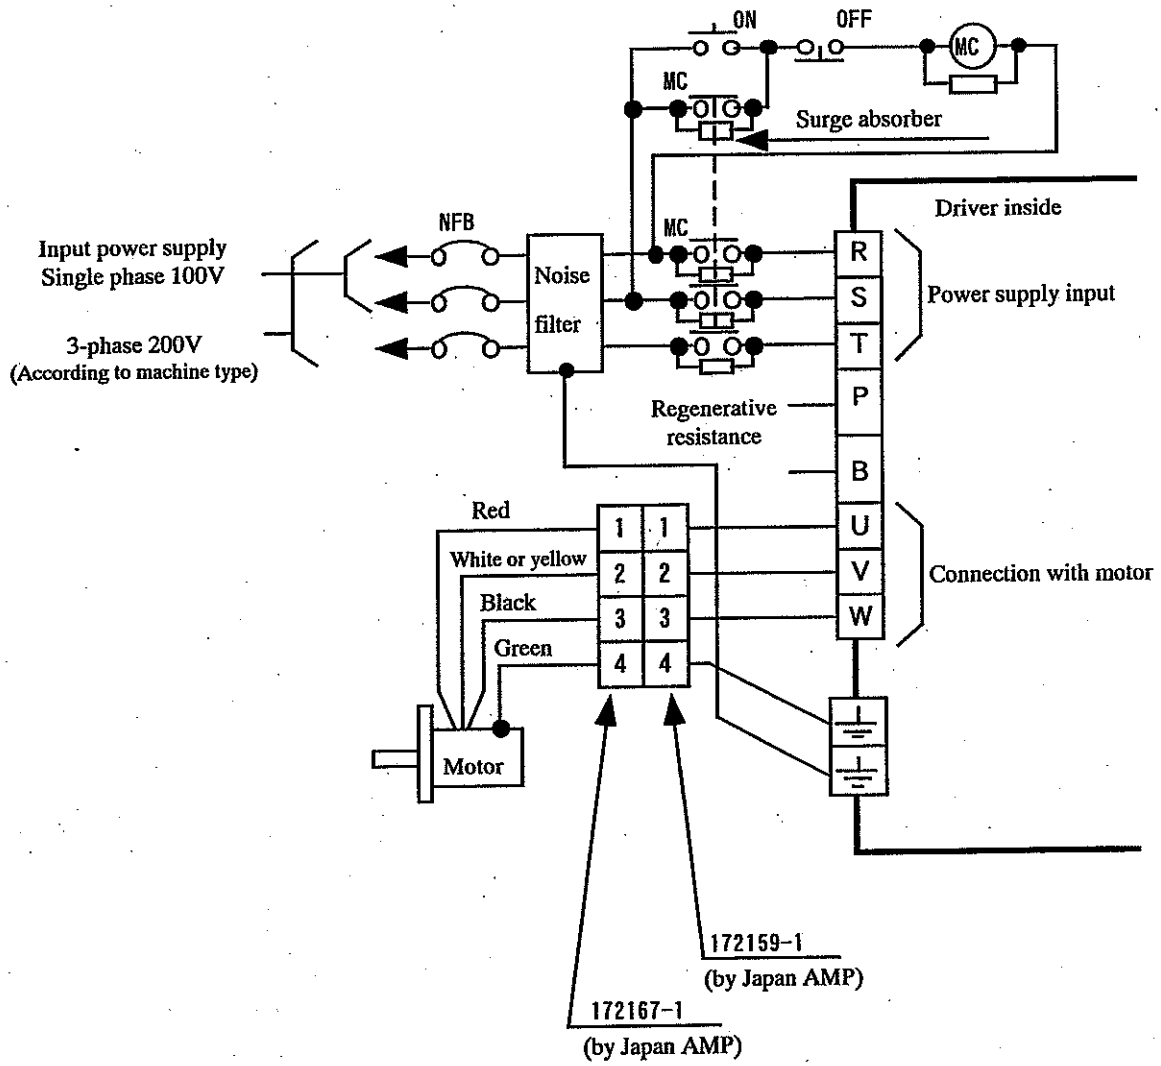

Fig. 6-1 Wiring to the terminal block
- (1) As the terminal block cover is fixed by screws when wiring to the terminal block, release the screws and open the cover.
- (2) Securely wire according to Fig 6-1 "Wiring to the terminal block".
- (3) With regard to devices for wiring and electric wires to be used, etc., refer to 6-2 "Wiring device selection" (Page 14).
- (4) For power supply voltage, apply voltage indicated on the name plate.
- (5) Do not connect reversely the power input terminals (R,S,T) and the motor output terminals (U,V,W).
- (6) Do not ground or short-circuit the motor output terminals (U,V,W) mutually.
- (7) Usually, do not connect anything to the terminals (P,B). Also, do not touch the terminals (P,B) as high-voltage is applied when turning the power supply on. If absorbing capacity of regenerative energy is insufficient in some cases, consult with the store where you purchased.
- (8) Unlike an induction motor, in AC servo motor, rotation direction cannot be changed by exchanging the 3-phase. Wire as shown in Fig. 6-1.
- (9) For connecting the terminal block to each terminal, be sure to use a crimp-style terminal with insulation coating.
- (10) Securely connect the connector motor earth terminal (⊕) and the driver earth terminal (⊕), and earth to one point together with the noise filter earth terminal. Earthing the machine main unit is recommended. Earth in Class 3 Earthing. (Earthing resistance under 100 Ω, φ 1.6mm and above)
- (11) After finishing wiring to the terminal block, close the terminal block cover and fix with screws to prevent electric shock.
- (12) Provide the surge absorbing circuit to electromagnetic contactor, between relay contact points, coil and brake winding of a motor with a brake which are allocated around the position driver, for preventing error operation.
- (13) Provide a no-fuse breaker to securely cut the power supply outside the position driver in the emergency. In case of using a earth leakage breaker, use the one provided with high-frequency ability as "for inverter." Capacitor rush current protection circuit is not provided in the position driver power supply input circuit.